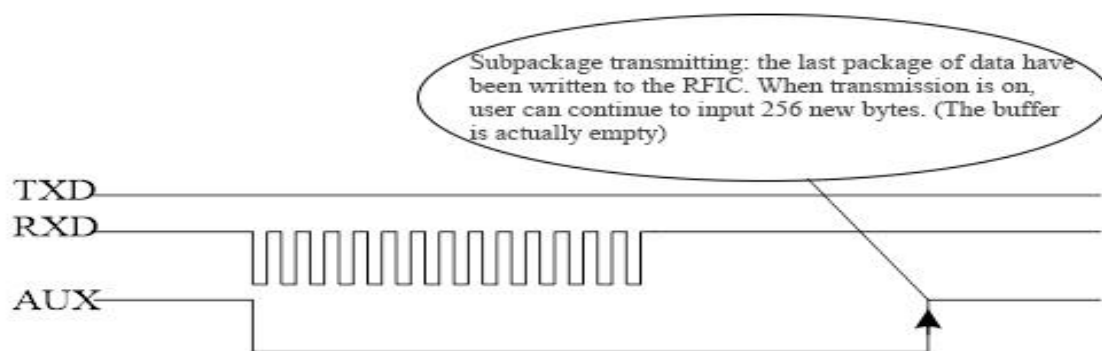

Figure 4: Timing Sequence Diagram of AUX when RXD pin receives
- Function 2 : Indication of wireless transmitting. See Figure 4.